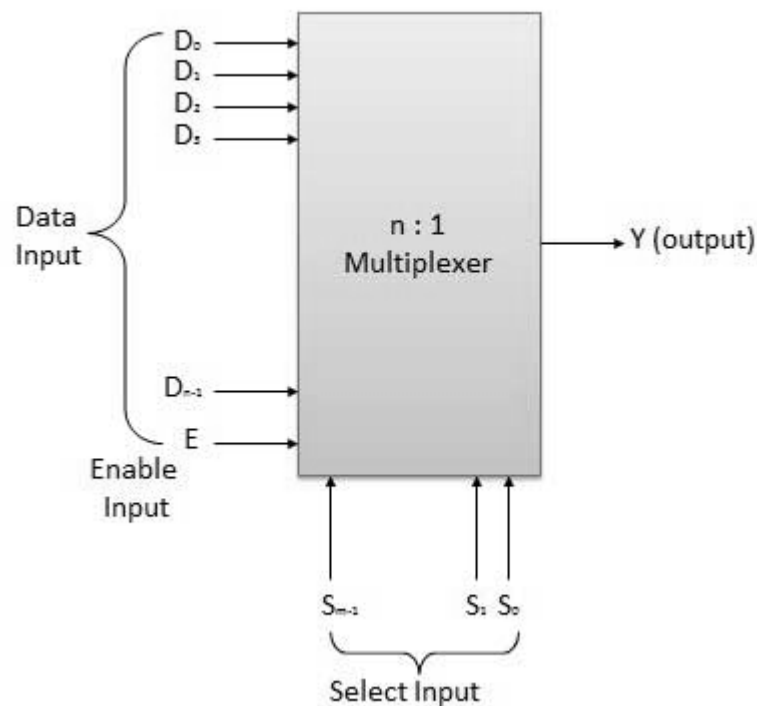

Fig 6.1: Basic Symbol of Multiplexer
A multiplexer (Mux) is a device that allows digital information from several sources to be routed on to a single line for transmission over that line to a common destination. The basic multiplexer has several data input lines (D_0, D_1, \dots, D_{n-1}) and single output line (Y). It has also data select inputs (S_0, S_1, \dots, S_{m-1}) which permits digital data on any one input to be switched to the output line. Multiplexers are also known as Data Selectors. (refer fig. 6.1)